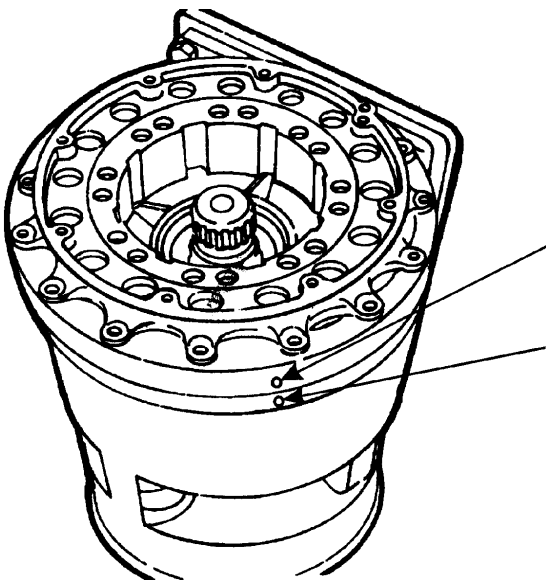

Fig. 7.37. Retainer Brake Plate
13. Assemble brake plate retainer (70) with retainer baffle (71) onto housing and retainer (59). Align with marks made during disassembly (Fig. 7.37).